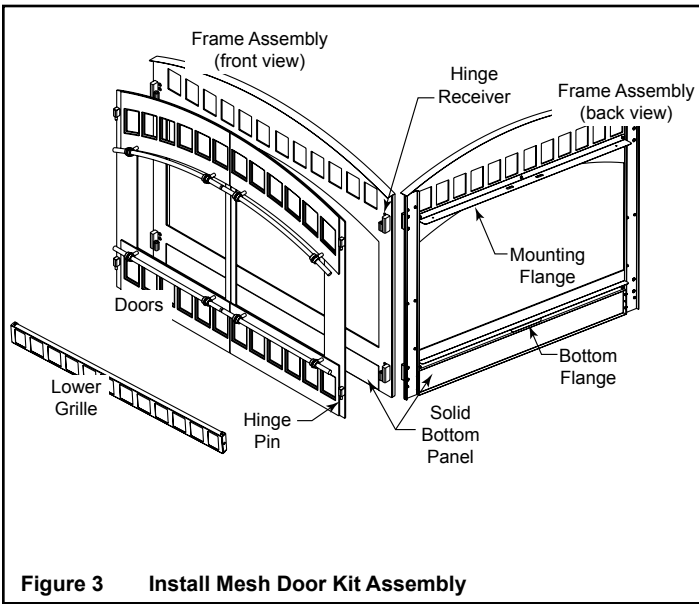

Figure 3 Install Mesh Door Kit Assembly
- C. Pick up the frame assembly and hook the bottom flange (refer to Figure 3) over the bottom face of the fireplace. The flange should fit over the face.
- F. Hang the doors on the frame assembly by positioning the hinge pins of the door in the mating hinge receivers (refer to Figure 3).
- E. Pick up the frame assembly and hook the bottom flange (refer to Figure 3) over the bottom face of the fireplace. The flange should fit over the face.
- H. Hang the doors on the frame assembly by positioning the hinge pins of the doors in the mating hinge receivers (refer to Figure 3).